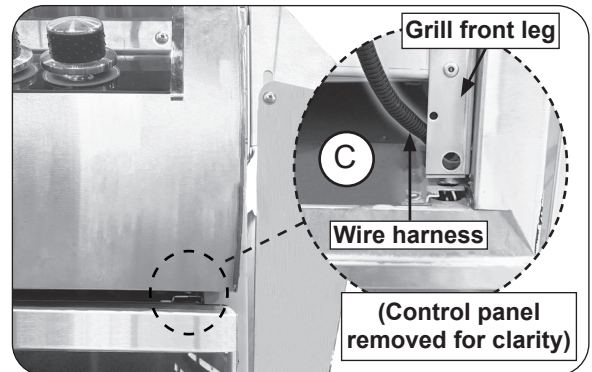

Fig. 11-2 Route wire harness
2. **While installing**, insert the wire harness into the open cavity on the right side of the cart base. Ensure to route the wire harness on the left side of the grill front leg while inserting (see Fig. 11-2, C). Routing the wire harness on the right side of the grill front leg will cause pinching and damage of wiring.